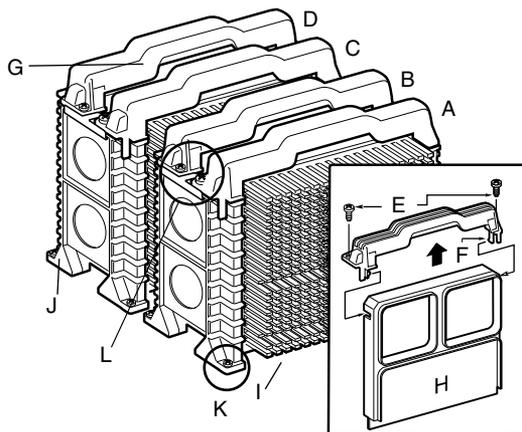

Figure 3-4 Processor Orientation and Components
See Figure 3-4 for the location of processor components.
5. Orient the processor correctly in the chassis. See Figure 3-4 on page 58 and Figure 3-1 on page 52.
1. Orient the handle as shown in Figure 3-4 on page 58.
3. Orient the heatsink on the correct side of the processor. For correct orientation, see Figure 3-4.